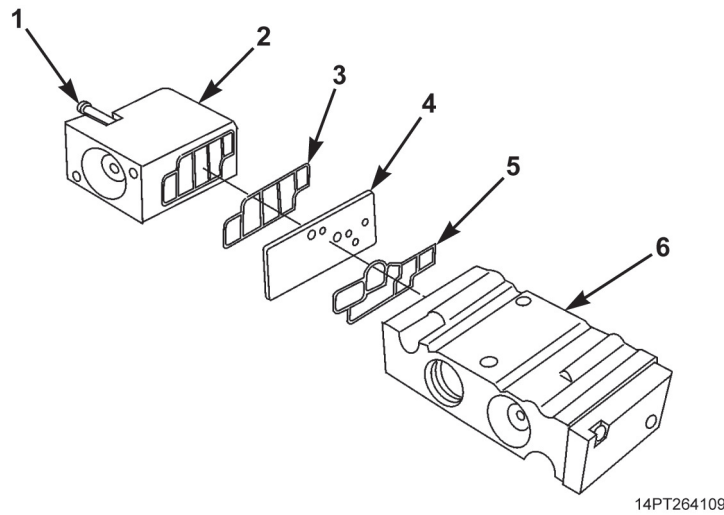

Figure 7. Valve Body Filter and Components Assembly.
5. Install new gasket (Figure 7, Item 5) on valve body (Figure 7, Item 6).
6. Install new gasket (Figure 7, Item 3) on filter housing (Figure 7, Item 2).
7. Position metal gasket (Figure 7, Item 4) and filter housing (Figure 7, Item 2) on valve body (Figure 7, Item 6) and install two screws (Figure 7, Item 1).